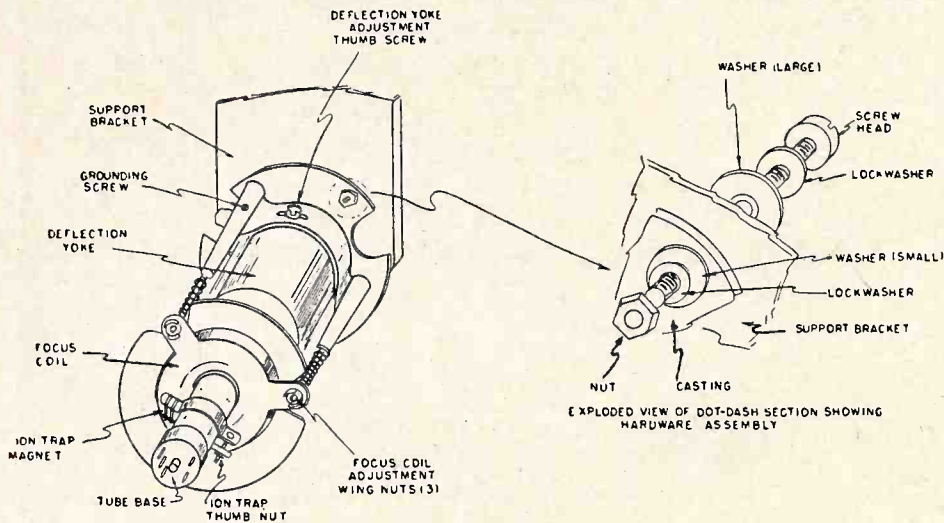

Fig. 1. Deflection yoke and focus coil assembly.
5. Assemble the deflection yoke and focus coil assembly to the support bracket using the hardware provided. See Fig. 1 for proper hardware assembly and mounting procedure.
6. Remove the 6-32 grounding screw from the yoke frame (see Fig. 1 for location). Attach the ground lug on the brown wire coming from the chassis, and replace the screw.